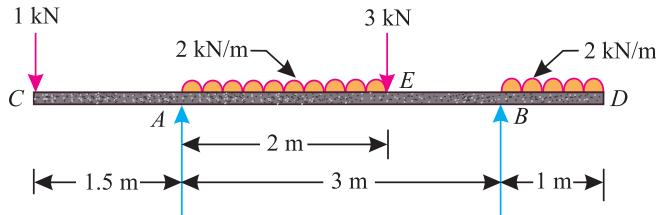

Fig. 12.12.
**Example 12.5.** A beam AB of span 3m, overhanging on both sides is loaded as shown in Fig. 12.12.